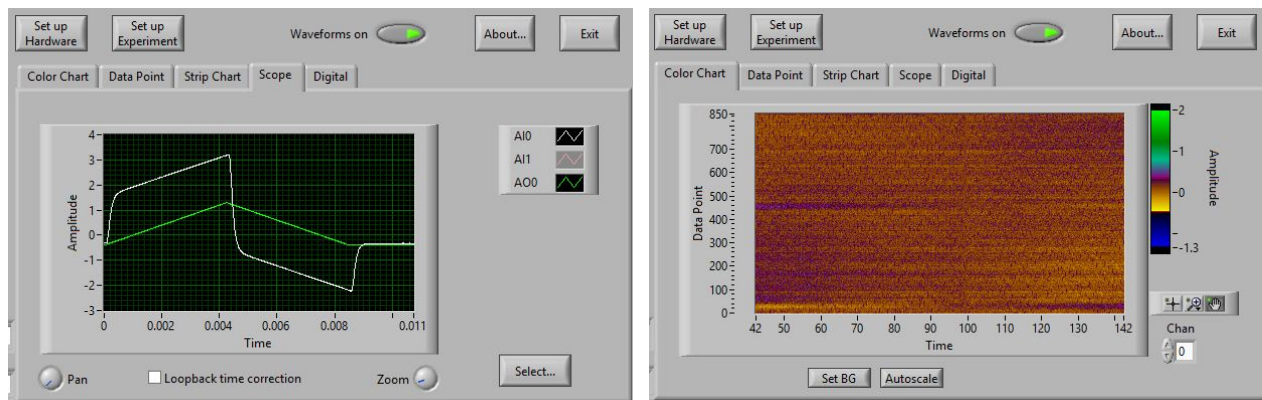

Figure 5-8: Scope (left) and Color Chart (right) Live Display Panels in HDCV
17. Apply the electrochemical waveform to the dummy cell by pressing the *Waveform on* button in HDCV (see: Figure 5-2). The live view window has five tabs, with Scope being the default view. Select Scope (see: Figure 5-8).
18. With the dummy cell connected to the WaveNeuro and the standard dopamine waveform applied to the dummy cell (green trace on Scope), the current response of that applied waveform across the dummy cell circuit is displayed on the Scope in white (see: Figure 5-8). If the observed current response does not follow waveform as expected, double check all cable connections between the WaveNeuro and the computer and that the WaveNeuro is powered on.
19. Select Color Plot tab in the live display area. In this mode, the electrochemical response will be continually recorded and displayed as an electrochemical color plot. The time of the CV for background subtraction can be define by pressing the *Set BG* buttons on the bottom of the display. Pressing the *Autoscale* button will adjust the magnitude of the current response on the plot. Right click on the mouse select *Clear Chart* to reset the collection of data. Then reset the background and scale by clicking on the *Set BG* and *Autoscale* buttons. The resulting color plot should look similar to the results shown (see: Figure 5-8). Note that the scale on the color plot in Figure 5-8 is $+2 \text{ nA}$ to -1.3 nA and the scale of the colorplot can be manually adjusted by selecting (left clicking) an endpoint and entering a value. The background CV used must be periodically updated by pressing the *Set BG* button. After $\sim 5 \text{ min.}$ of applying the waveform, if the resulting color plot is not stable within $\pm 5 \text{ nA}$ over the displayed time, please take a screen shot and contact Pine Research for technical support.